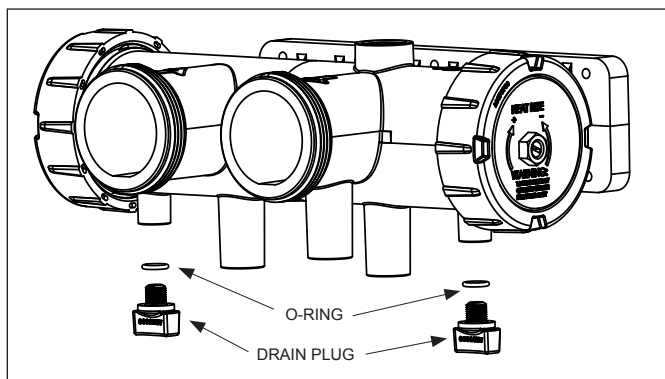

Figure 24. Draining the Heater
4. Remove the drain plugs from the inlet/outlet header, and completely drain the heater before the first frost. See Figure 24.